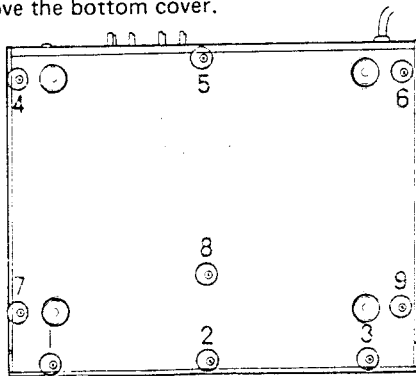
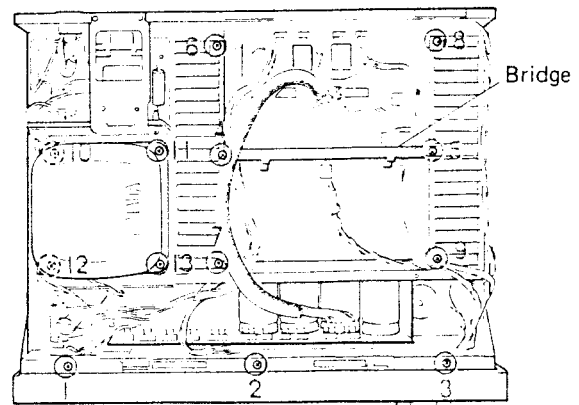

Fig. 2
Fig. 3
Remove screws ① through ⑨ in Fig. 2 and then remove the bottom cover.
b. Remove screws ① through ③ in Fig. 3 and screws ① through ③ in Fig. 2, the front panel may be lifted out forward gently. When is performed, the illumination lamp of the power switch must be disconnected.